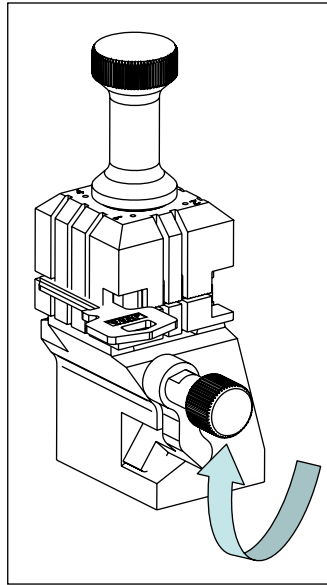

FIG. 14
1. Neck limit (C): This is the most common. The key is limited by means of a mechanical limit of the clamp. (Fig. 14)